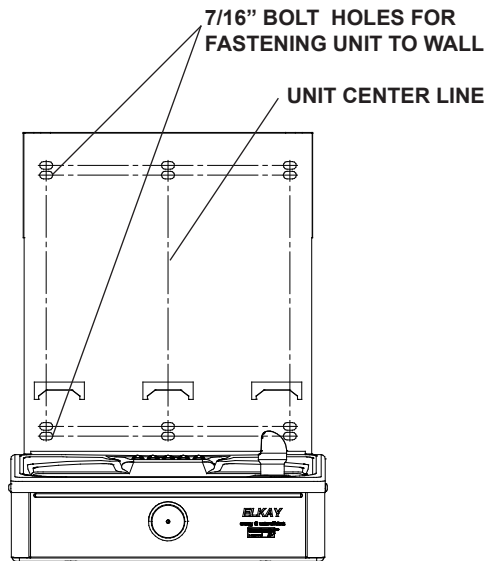

Fig. 7
- 2) Remove wall mounting plate from Bottle Filler. Place wall plate against wall on top of basin. Center the wall plate side to side with the basin. Mark the six (6) mounting holes with a pencil (See Fig. 7).
- 4) Install wall mounting plate to wall using six (6) 7/16" obround mounting holes (mounting bolts not included) (See Fig. 7). Use appropriate fasteners for your wall type.